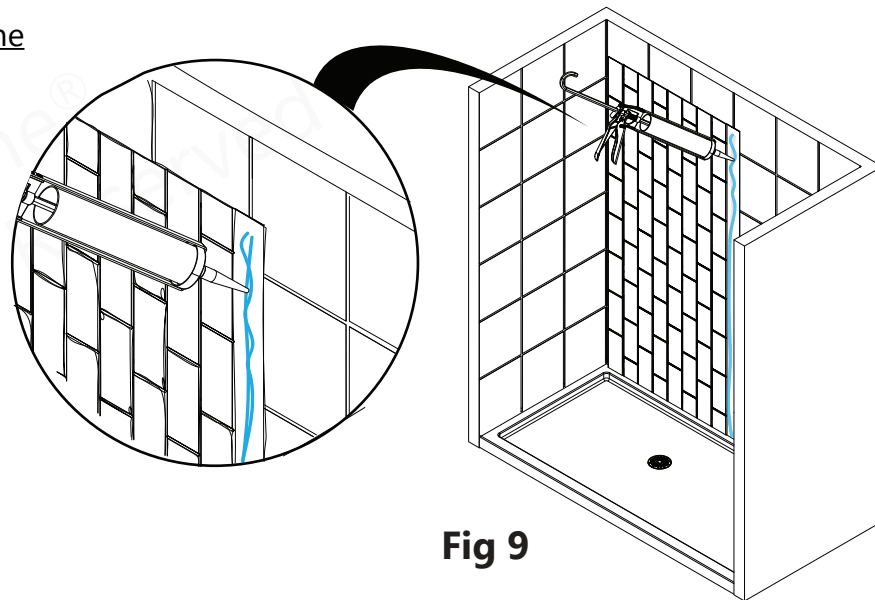

Fig 9
9. Remove the overlap back panel and then apply clear silicone to the face of the underlap on the installed **Q-Wall Back Panel** (where the two back panels will overlap). **Fig 9**